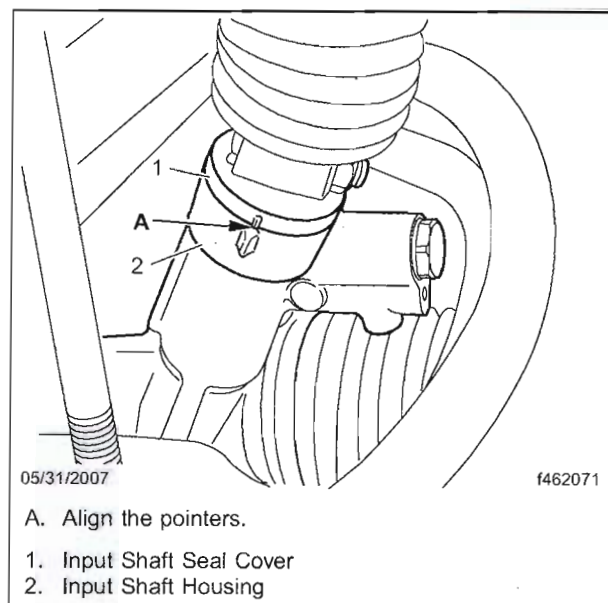

Fig. 1, Pointer Alignment
3. Turn the steering wheel one full rotation to the left to move the inner tie rod inward and align the gear for the following steps. Ensure the timing pointers on the input shaft seal cover and input shaft housing are aligned. See Fig. 1.